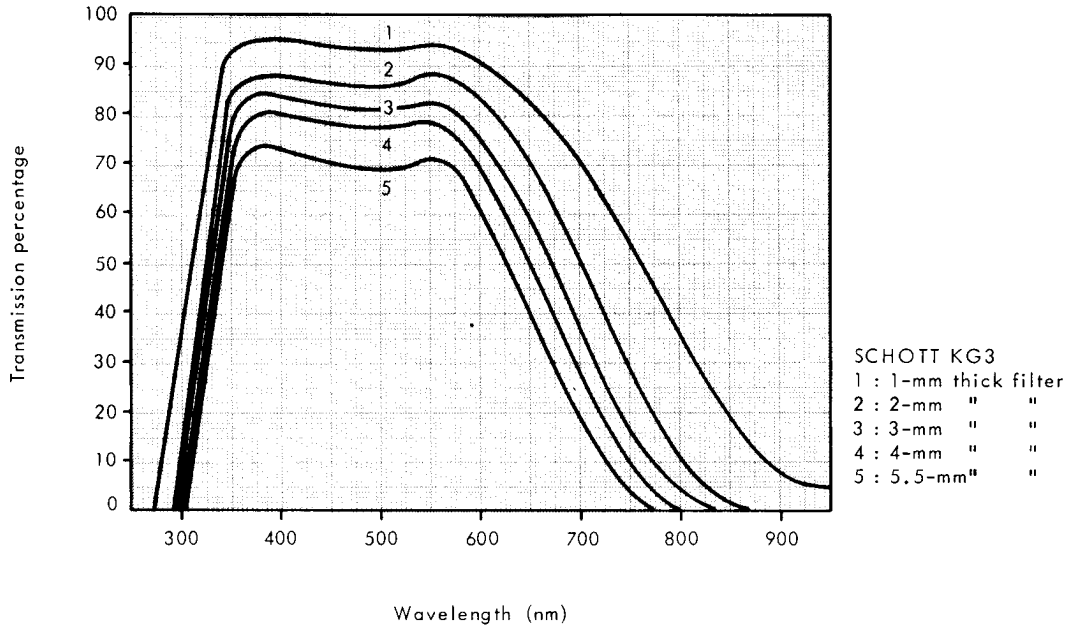

Figure 9 - Typical transmission of SCHOTT KG3 infrared absorbing filters.
- 8 - The SCHOTT-KG3 filters, of 1-mm, 2-mm, 3-mm, 4-mm and 5.5-mm thickness, are placed between the light source and the tube faceplate (see Figure 9). SCHOTT and GEN-128 Bd. Haussmann - 75008 PARIS.